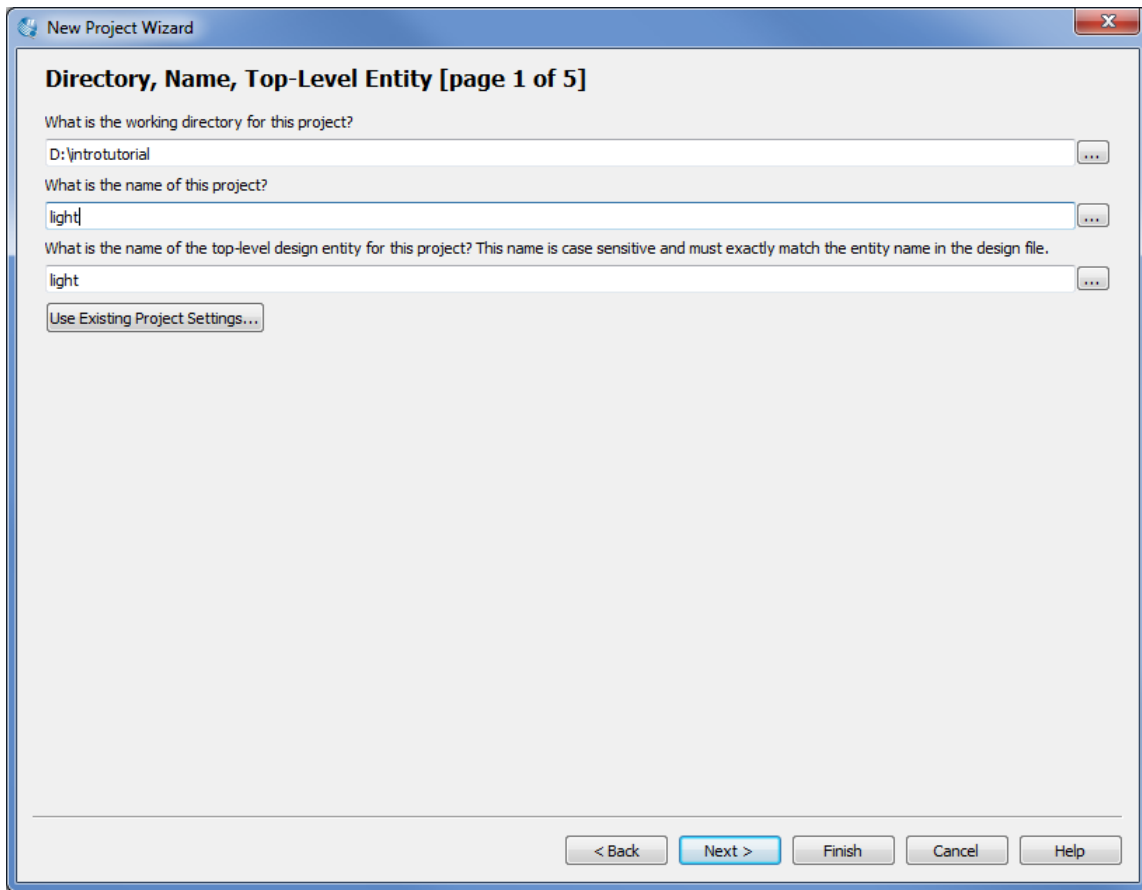
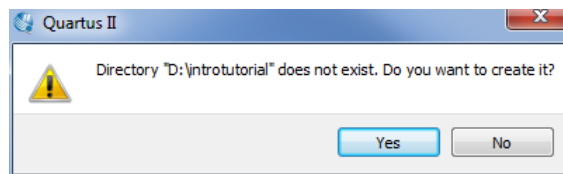
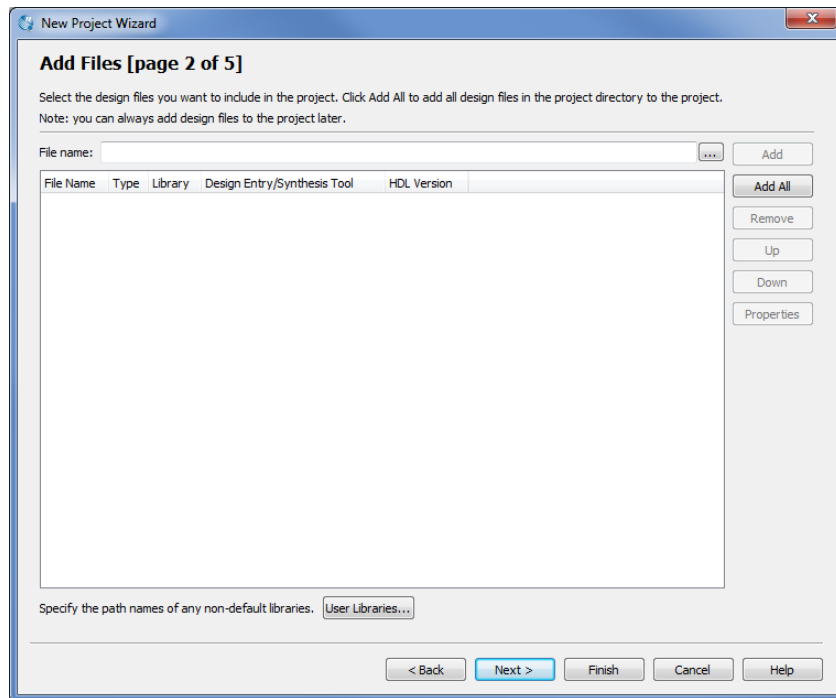

Figure 4. Creation of a new project.
Figure 5. Quartus II software can create a new directory for the project.
Figure 6. The wizard can include user-specified design files.
1. Select **File > New Project Wizard** and click **Next** to reach the window in Figure 4, which asks for the name and directory of the project.
2. Set the working directory to be *introtutorial*; of course, you can use some other directory name of your choice if you prefer. The project must have a name, which is usually the same as the top-level design entity that will be included in the project. Choose *light* as the name for both the project and the top-level entity, as shown in Figure 4. Press **Next**. Since we have not yet created the directory *introtutorial*, Quartus II software displays the pop-up box in Figure 5 asking if it should create the desired directory. Click **Yes**, which leads to the window in Figure 6.
The Quartus II Graphic Editor can be used to specify a circuit in the form of a block diagram. Select File > New to get the window in Figure 12, choose Block Diagram/Schematic File, and click OK. This opens the Graphic Editor window. The first step is to specify a name for the file that will be created. Select File > Save As to open the pop-up box depicted in Figure 13. In the box labeled Save as type choose Block Diagram/Schematic File (*.bdf). In the box labeled File name type *light*, to match the name given in Figure 4, which was specified when the project was